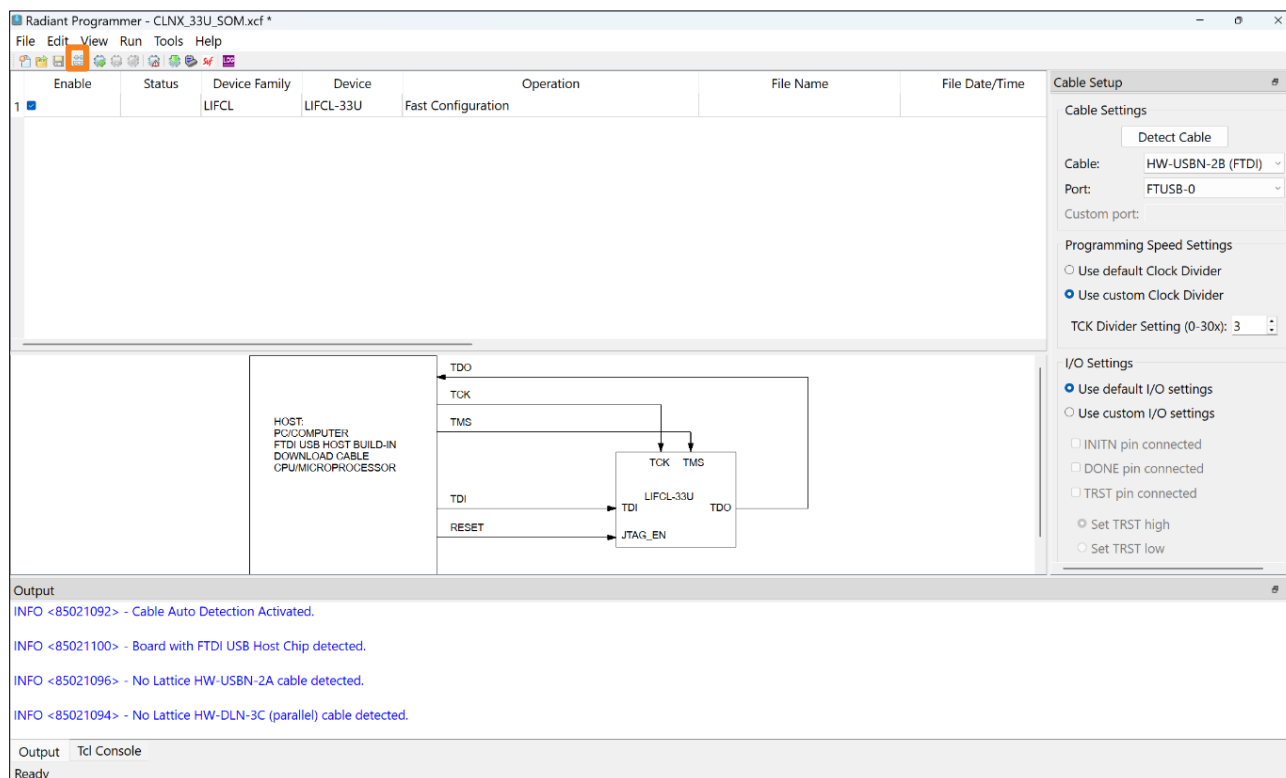

Figure 6.4. Radiant Programmer – Scan Device
- Click the **Scan Device** icon. In the pop-up window, confirm the default setting. The following interface of Radiant Programmer appears (Figure 6.4).